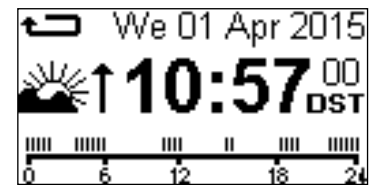

Figure 6.1 – Main timer display
The timer display (Figure 3.2 p. 1) will show the main screen shown in Figure 6.1
Note – to review the events it is necessary to be on the main screen of the timer, a figure 6.1.
- If there are no mistakes found during verification the timer will return to the Main Screen (figure 6.1);